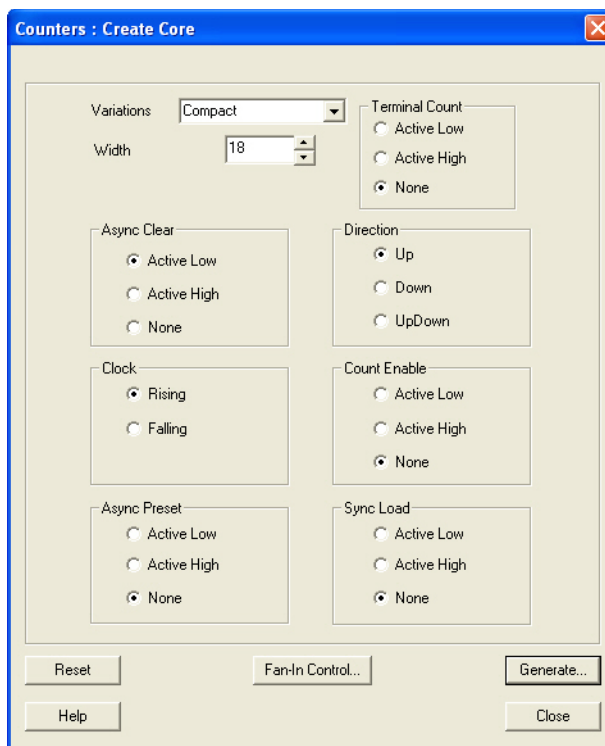

Figure 1-11 • Counters: Create Core Dialog Box
6. The Counters: Create Core dialog box opens. Enter the following values; accept defaults for any values not specified (Figure 1-11).